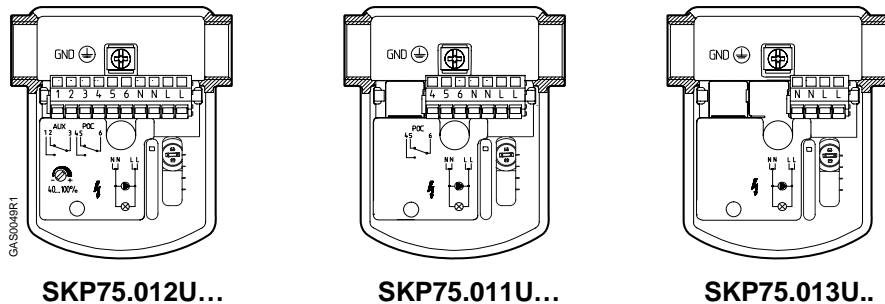

Figure 6. Terminal Designations.
- Adjust the auxiliary switch (if provided) according to the wiring diagram on the label below the terminals (see Figure 6). The adjustment screw and scale are located on the right side of the terminal box, and are visible through the transparent portion of the terminal cover.